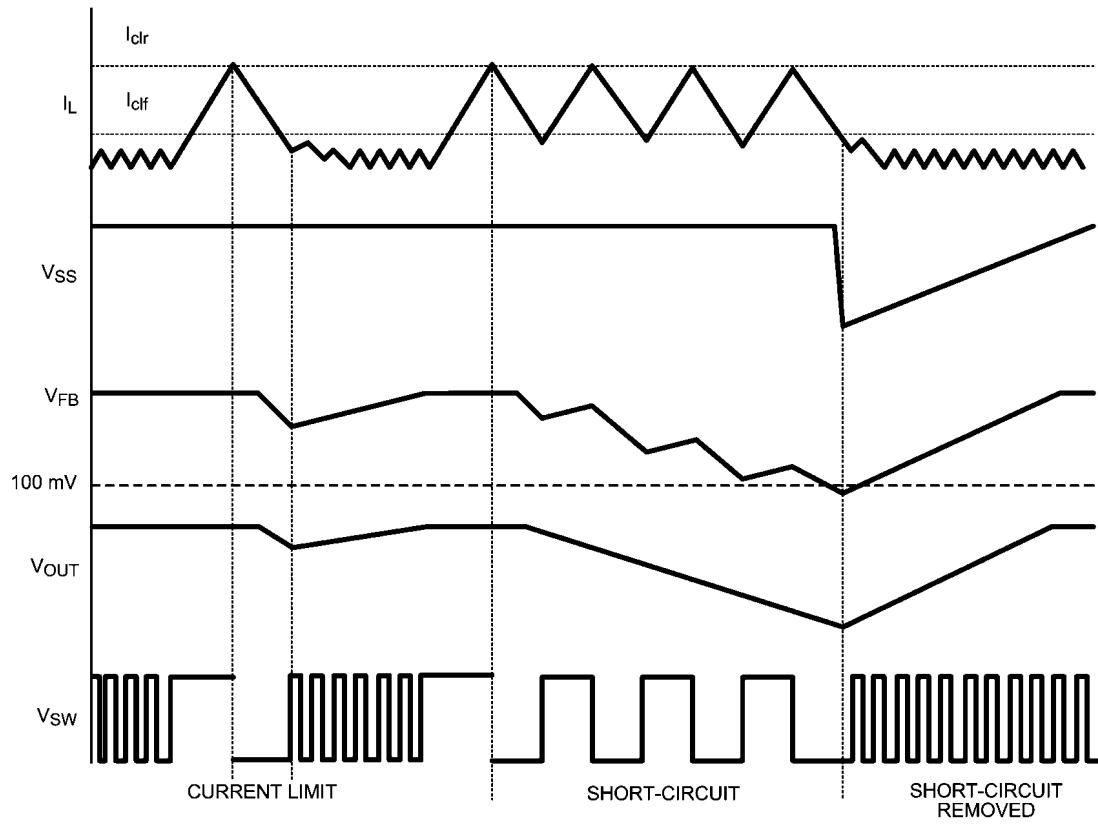

FIGURE 2. Current Limit Conditions
A current limit condition will cause the internal soft-start voltage to ramp downward. After the internal soft-start ramps below the Feedback (FB) pin voltage, (nominally 0.6 V), FB will begin to ramp downward, as well. This voltage foldback will limit the power consumption in the device, thereby protecting the device from continuously supplying power to the load under a condition that does not fall within the device SOA. After the current limit condition is cleared, the internal soft-start voltage will ramp up again. *Figure 2* shows current limit behavior with V_{SS} , V_{FB} , V_{OUT} and V_{SW} .